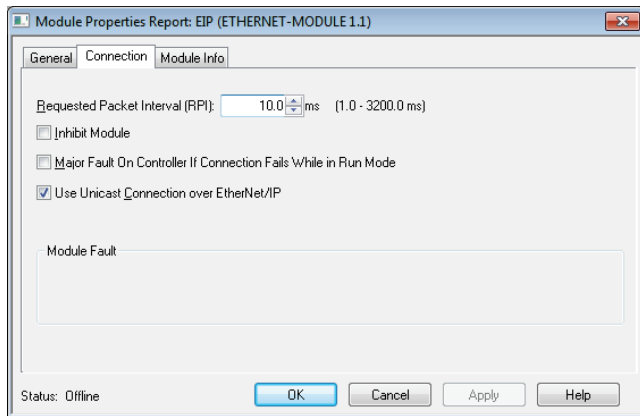

Figure 43: Module Properties Connection Tab
- 5) You should now see the new module (named “ETHERNET-MODULE Interface_Card”) in the 1756-ENBT branch under the I/O Configuration in the controller organizer view. Right click on this new module, choose “Properties”, and select the Connection tab. Refer to Figure 43.